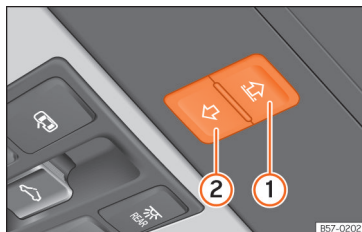

Fig. 68 On the interior roof lining: function button to operate the sun blind.
- If it still cannot be closed, within 5 seconds press the button » » Fig. 68 ② until the blind closes fully. **The blind closes without the intervention of the anti-trap function!**